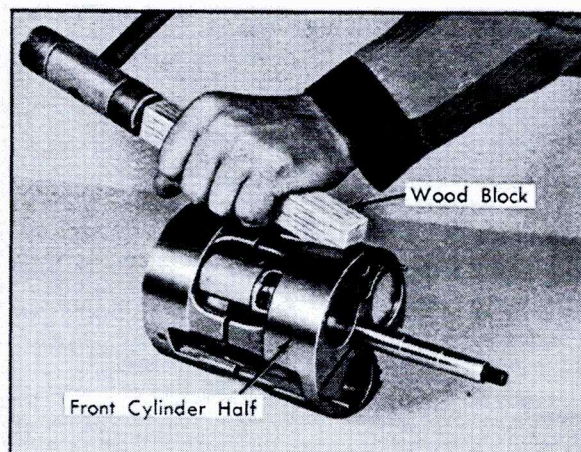

Fig. 1-59 Separating Cylinder Halves
3. Separate cylinder halves, using a wood block and mallet, Fig. 1-59. Make certain that discharge cross-over tube does not contact swash plate when separating cylinder halves.